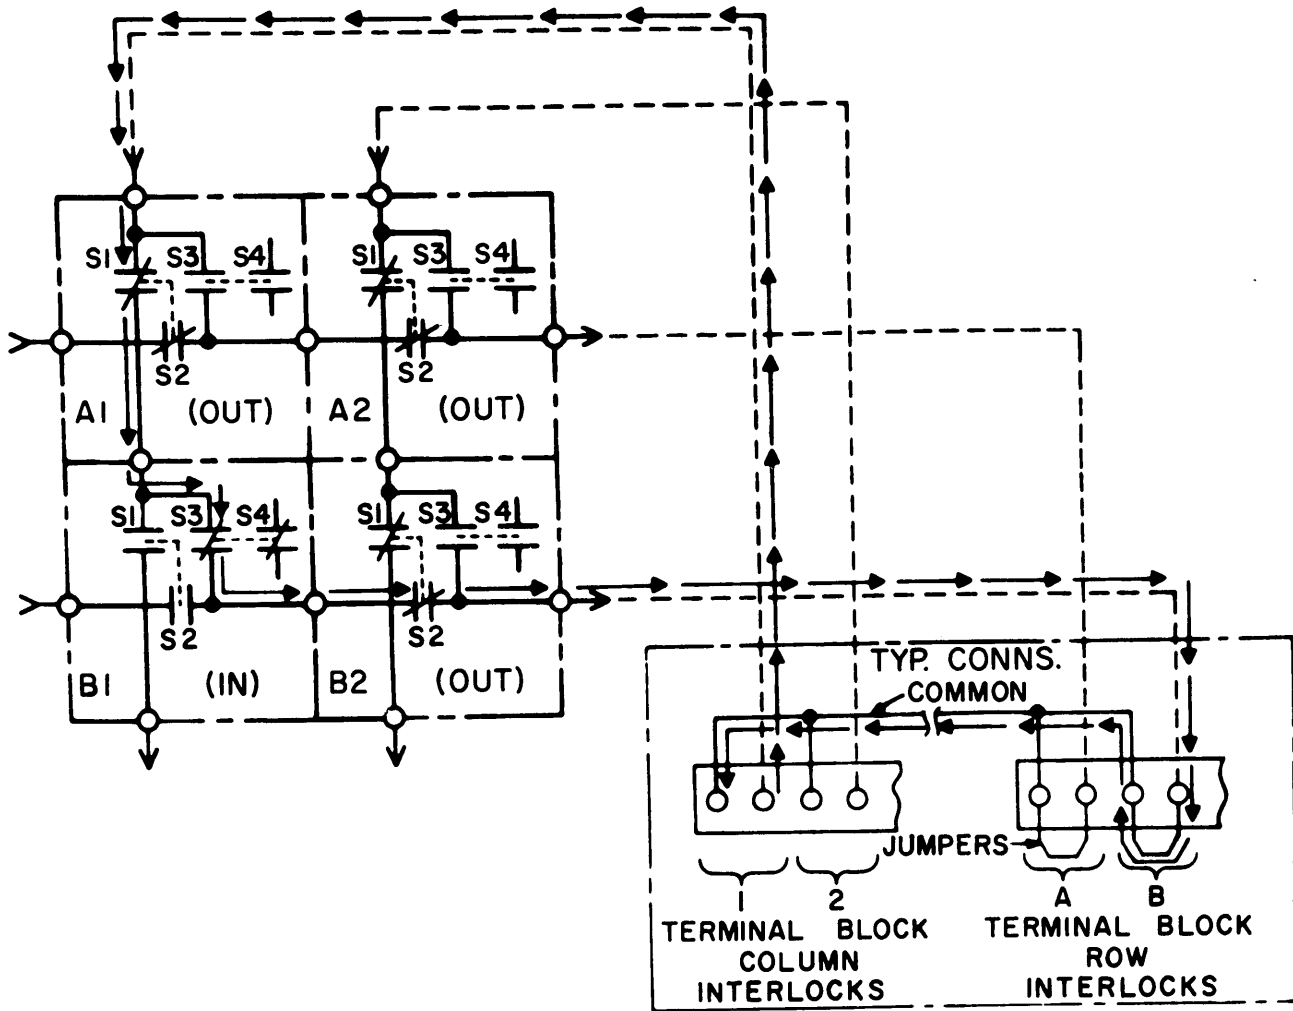

Figure 4-4. Interlock Circuit
4.2.2 Three microswitches are utilized on each switch module for interlock switching (S1, S2, S3; Figure 4-4). These microswitches, along with an additional microswitch used for the indicator circuit (S4, Figure 4-4), are mounted on the front mounting plate on manually operated crosspoints, and are mounted within the motor-actuator on power operated crosspoints. Two of the microswitches (S1 and S2) are closed when the ram is latched in the OUT position, and the other two switches (S3 and S4) are closed in the IN position.
4.2.3 The interlock switches duplicate the switching of the RF circuit to provide complete interlock. With all of the rams in the OUT position the column interlock buss is carried straight through by the S1 switches, and the row interlock is carried straight through by the S2 switches. When a ram is latched in the IN position the paths are interrupted by S1 and S2 and the column and row paths are connected together by S3 which is closed. The resulting interlock path for Ram B1-IN is marked on Figure 4-4.
The standard indicator circuit is composed of individual microswitches located on each module (S4, Figure 4-4). The microswitch is closed when the ram is latched in the IN position connecting the corresponding terminal on a multi-pin connector (mating connector supplied) to a common floating buss. This circuit may be used to energize the appropriate indicator on a remote readout panel to indicate the switching status of the system. An antenna status panel is available as an accessory. It utilizes rear projection readouts to indicate the status of up to a 10-column, 11-row matrix in only 3 1/2" of 19" wide rack space.